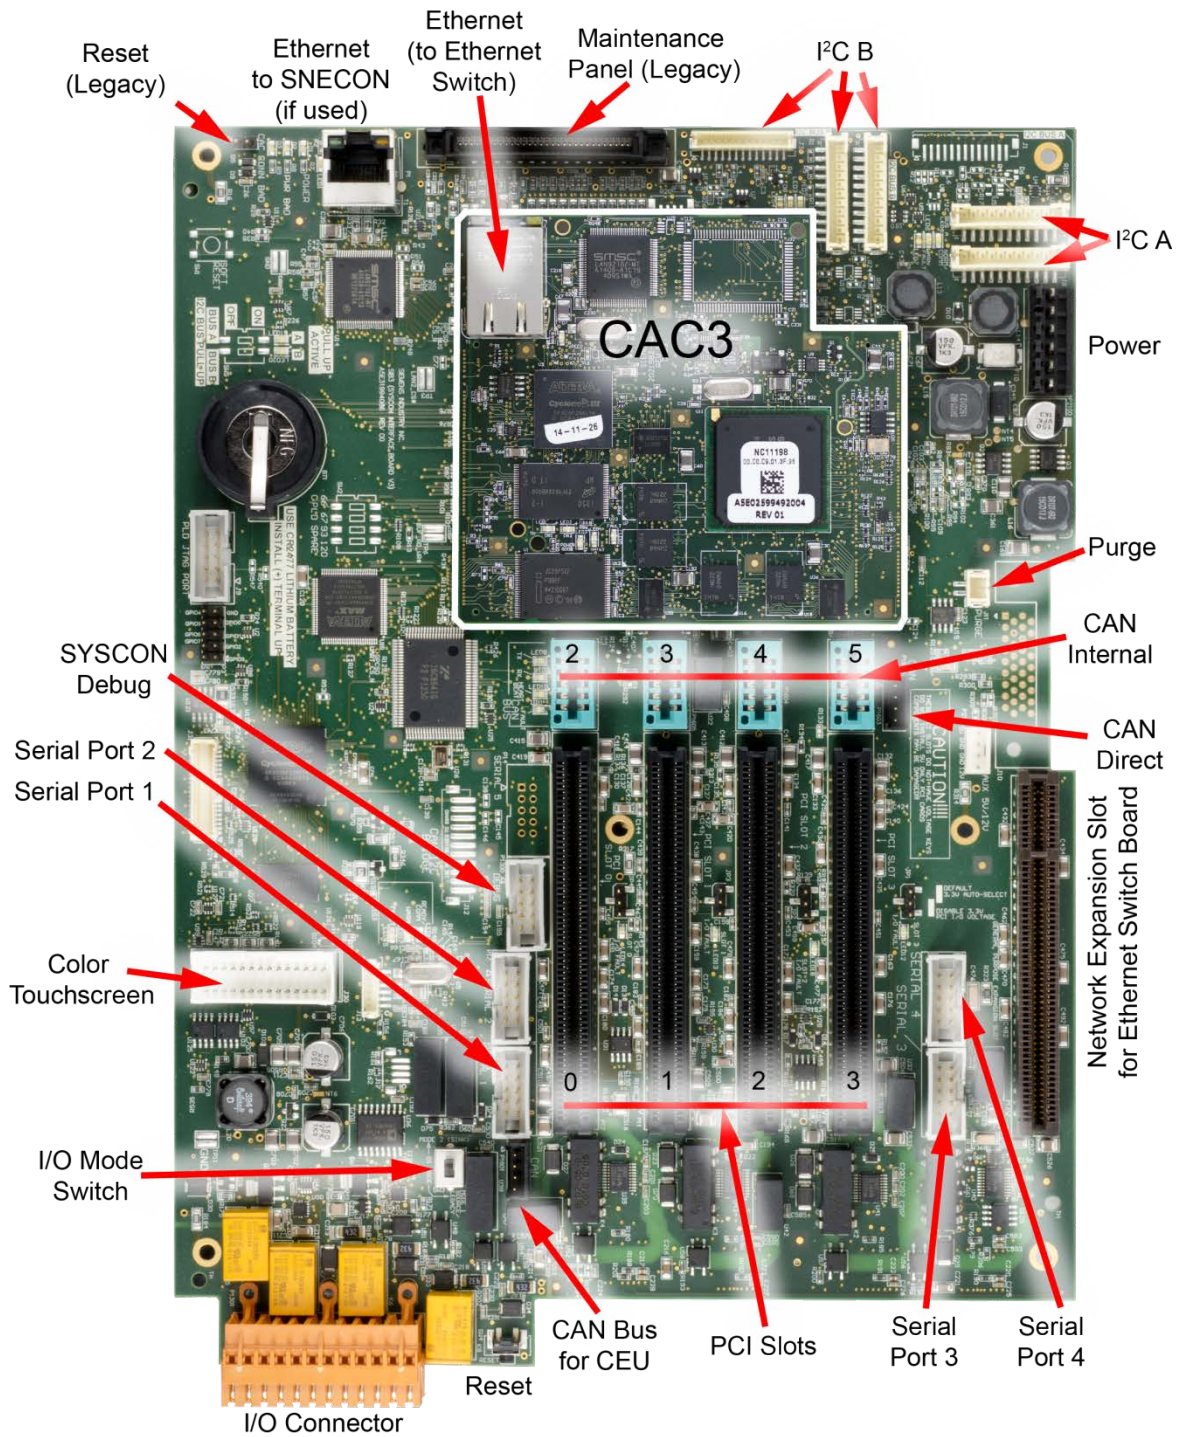
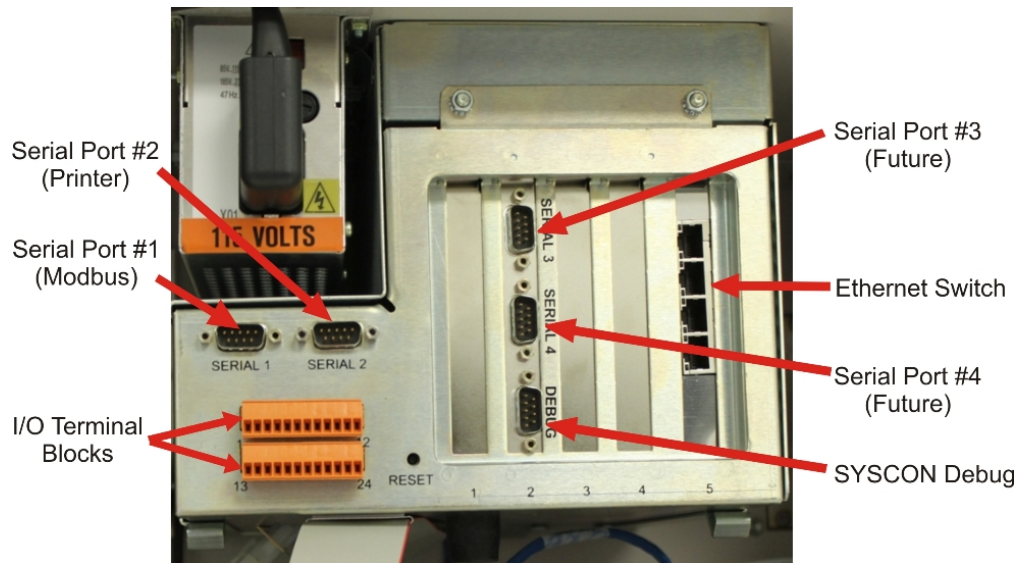
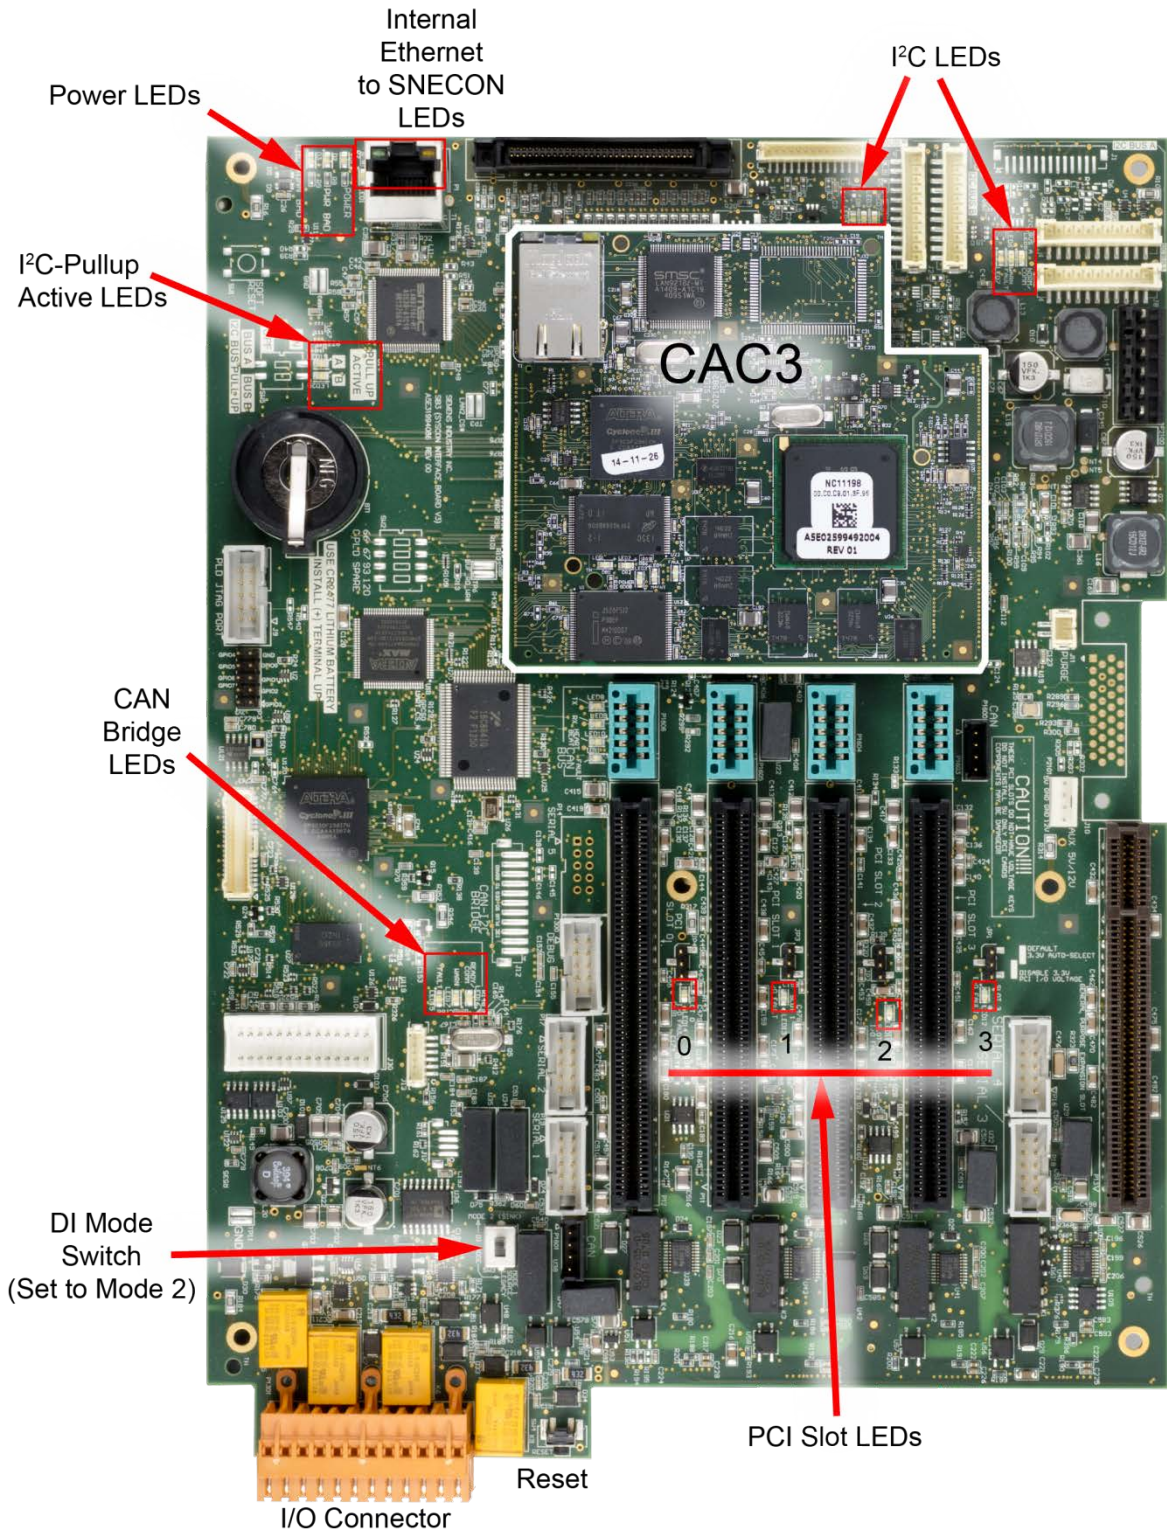

Figure 2-8 SYSCON2.1 Connections
Figure 2-9 SYSCON2.1 Assembly Front Connections
Figure 2-10 SIB3 LED and Switch Locations
Other than external Ethernet, the SIB3 provides all interfaces for the SYSCON2.1. The connections are described below. All connectors in the SYSCON2.1 have the same pin assignments as the corresponding connectors in the original SYSCON, except where noted below. See Figure 2-8 and Figure 2-9 for physical connector locations in the SYSCON2.1:
- **PCI and CAN Direct Slots** – The PCI slots on the SIB3 accommodate a variety of special function cards, including I/O boards or ANCB board. Four PCI slots are equipped in the SYSCON2.1; however, typically only three slots are available for use in the standard configuration, because one SYSCON slot is used for serial/debug port hardware as shown in Figure 2-9.
- **I²C Bus** – The I²C connectors are shown in the upper right corner of Figure 2-8. Two I²C buses are equipped on the SYSCON2.1. These are labeled I²C Bus A and I²C Bus B.
- **I²C Bus A** includes the two connectors on the right as shown in Figure 2-8. I²C Bus A is dedicated and hard wired to the CAN Bridge function. This allows the new SYSCON2.1 to interface with legacy CAN I/O cards in the PCI slots.
- **I²C Bus B** includes the three I²C connectors on the left as shown in Figure 2-8. I²C Bus B is intended for use to support future configuration changes in the Maxum II.
- **Resets** – The SYSCON2.1 is equipped with two connections for SYSCON reset. The first connection, located at the front of the board (bottom of Figure 2-8), is a pushbutton switch. This switch may be accessed via the front of the newest version SYSCON assembly cage as seen in Figure 2-9. The second connection consists of two pin connections at the back of the board (top left of Figure 2-8). This second connection operates using a simple loop closure and is provided to support legacy SYSCON assembly cages that provide a separate wired pushbutton reset. Both connections allow the user to initiate a hard reset of the SYSCON (same as initial power up).
The SIB3 has several LEDs that indicate useful information about the operating status different interfaces. These LEDs are shown in Figure 2-10 and described in Table 2-2. The SIB3 is also equipped with certain option switches, described below, that must be set correctly for proper operation. Before installation, verify all switch settings. When replacing a SYSCON2.1 verify that the switch settings on the new board match the switch settings on the board being removed.
The I/O board options for the SYSCON2.1 are the same as for the original version of SYSCON and are described in the previous section. See the section “Analog and Digital I/O Boards” under the original SYSCON section and refer back to “System Controller Connections”, Figure 2-8 through Figure 2-10 and Table 2-1 through Table 2-3 for connection diagrams.